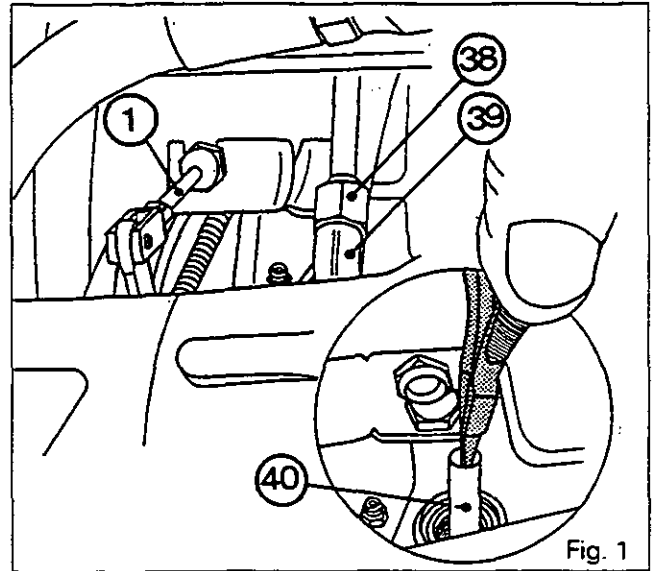

Fig. 1
2. Disconnect the supply tube (38), unscrew the connector (39) and withdraw the tube (40) (Fig. 1).
Note: If access to the connector (39) is difficult, on «economy 4-speed p.t.o.» version tractors, remove the control (1) (Fig. 1).
3. Undo the screws (2) alternately so as to release the spring (6) gradually.
4. Remove the carrier (9), the washer (11), the sliding coupler (7) and the spring.
19. Fit the pipe (40) and the connector (39) (Fig. 1).
23. Disconnect the pressure gauge and connect the supply pipe (38) (Fig. 1).
25. Check for leaks of the supply pipe (38) (Fig. 1) and the operation of the differential lock.